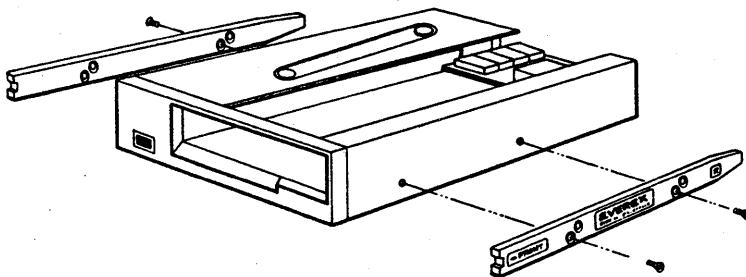

Figure 10: Attaching AT Slide Rails to an Internal Tape Drive
16. For an IBM AT or compatible computer, attach the slide rails provided with the tape drive, as shown in Figure 10: